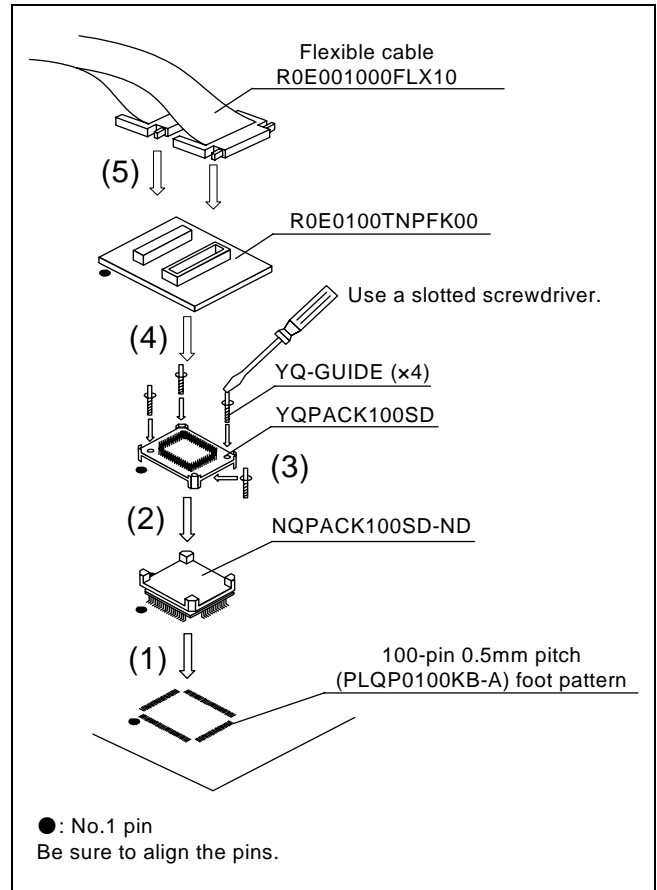

Figure 3 Connection procedure of the R0E0100TNPFK00
5. Connection Procedure (See Figure 3)